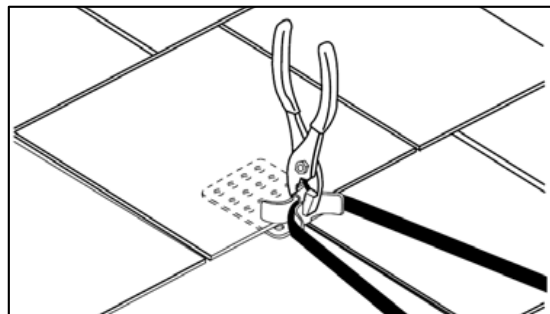

Figure 4.
6. Install de-icing cable and use pliers to close clamps, ensuring not to damage cable. See Figure 4.